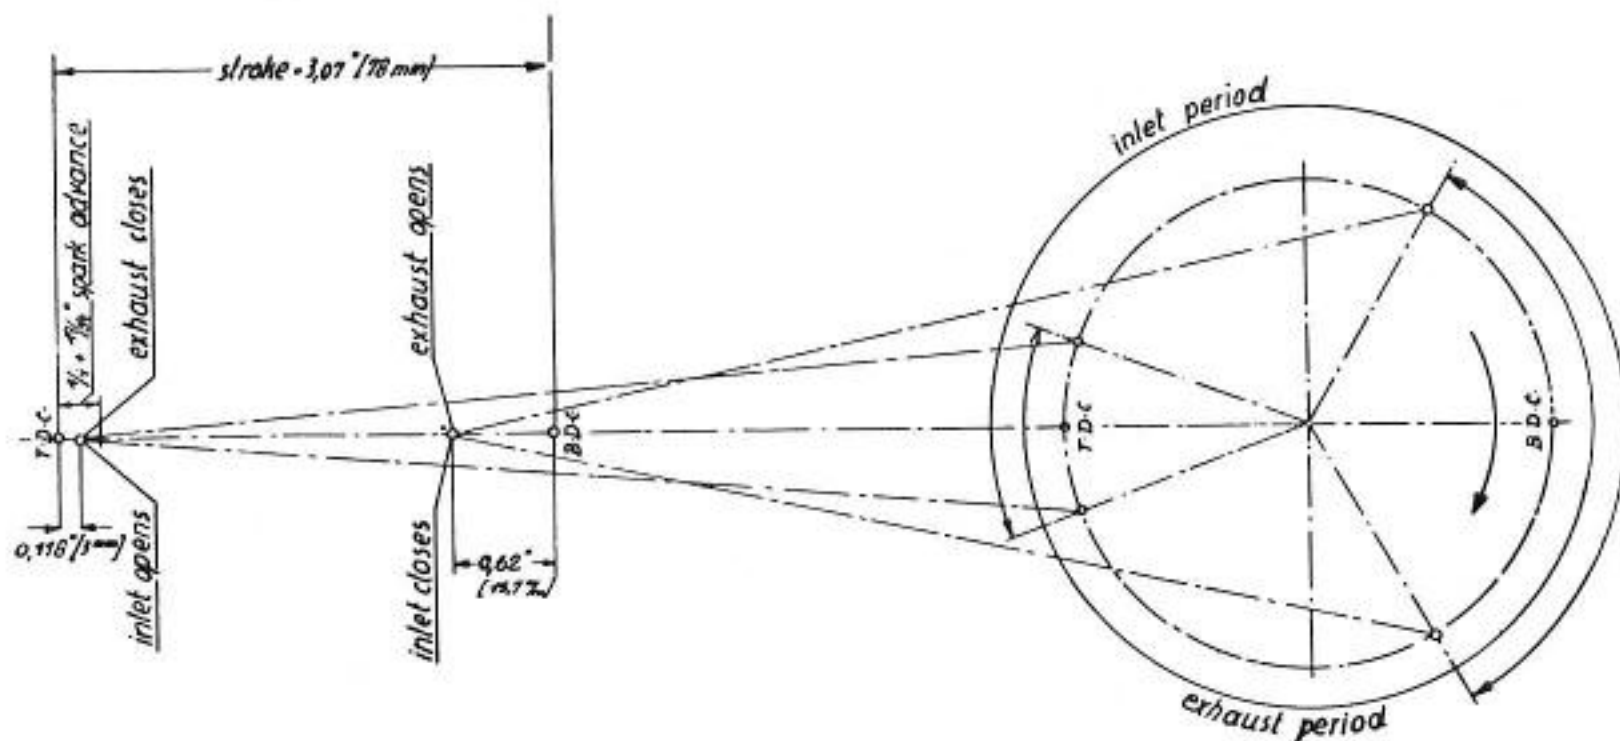

Fig. 21 Timing diagram for the touring machine
If it should not be possible to bring the two marks into exact agreement, which might occur if the driving chain has stretched, it is advisable to make use of the timing diagrams (figs. 21 and 22). According to these, for instance with the touring machine, the crankshaft before turning to upper dead centre must be turned back by the amount of the previous opening of the inlet valve. (2.8 mm stroke of piston, compare fig. 37, seen in travelling
**Touring machine.** After removing the cylinder head of the cylinder lying at the right when viewed in travelling direction, adjust the crankshaft to the upper dead centre at the end of the compression stroke. Both valves must then be closed. If the magneto is to be fitted after adjustment of the valve timing, the crankshaft must be given another turn through exactly  $360^\circ$  in the sense of rotation of the engine (viewed in travelling direction to the left (anti-clockwise) so as to be able to mount the lighting and ignition battery or magneto, after having adjusted the piston of the adjusting cylinder for adjustment of the camshaft to the upper dead centre. Then turn the crankshaft back (to the right viewed in travelling direction, clockwise), until the piston has travelled a path of 7—8 mm (compare diagram fig. 21). In this position place the chain between the camshaft chain wheel and the driving wheel of the light or ignition magneto which has been adjusted according to the above instructions.